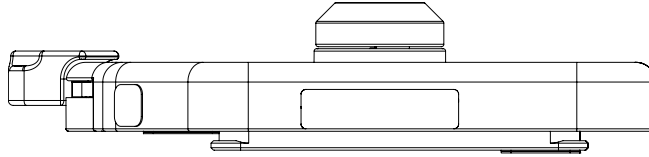

Figure 18: Universal Mounting Base installed on the Flex Adapter
4. Flip the base, Flex Adapter facing downwards (Figure 18).